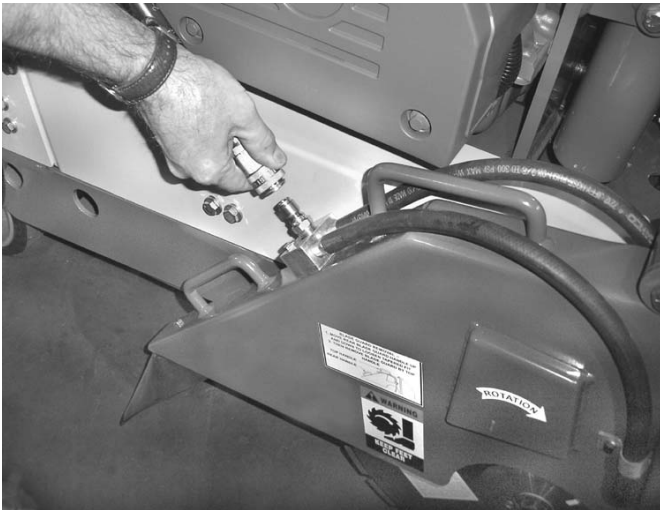

Figure 14. Blade Guard Water Delivery Connector
1. Remove the water delivery hose from the blade guard (Figure 14).
2. Connect the water delivery hose to the blade guard (Figure 14).
2. Verify that the water hose on the saw is connected to the blade guard, (Figure 14), and that the water hoses or tubes are pointed into both blade flanges.